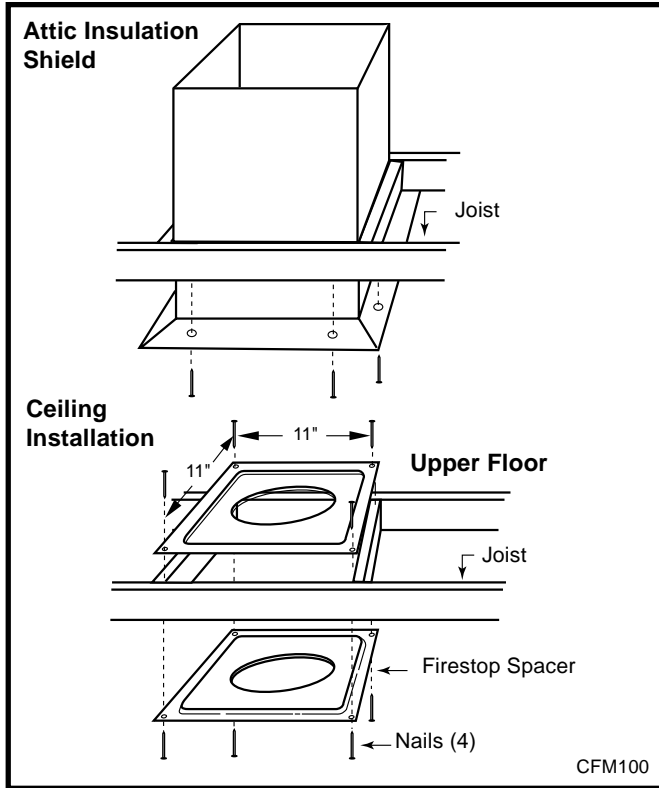

Fig. 32 Place firestop spacer(s) and secure.
6. Place firestop(s) #7DVFS or Attic Insulation Shield #7DVAIS into position and secure. (Fig. 32)
If there is room above ceiling level, firestop spacer must be installed on both the bottom and the top side of the ceiling joists. If an attic is above ceiling level a 7DVAIS (Attic Insulation Shield) must be installed. (Fig. 32)